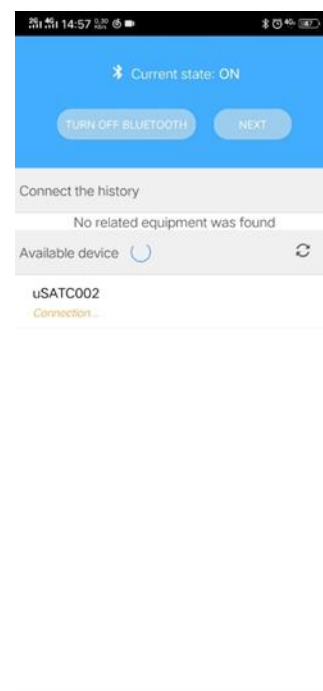

Figure 7-6
4. Click on the refresh icon  behind the title "Available device". Search for new Bluetooth devices (uSATxxxx, xxxx is numbers), then click the Bluetooth device name you want to connect, at this point, the APP needs to be authorized by the Terminal, as shown in Figure 7-6, when the Terminal receives the request information of Bluetooth, the buzzer will give sound prompt at the frequency of 1 second (30 seconds will timeout), and only sound prompt will be given on other pages (such as GPS search page). You need to click the touch button on the OLED display screen of the Terminal (as shown in Figure 7-7).
5. After the authorization is successful, select the device that needs to be connected in the list and click "NEXT", as shown in Figure 7-6.